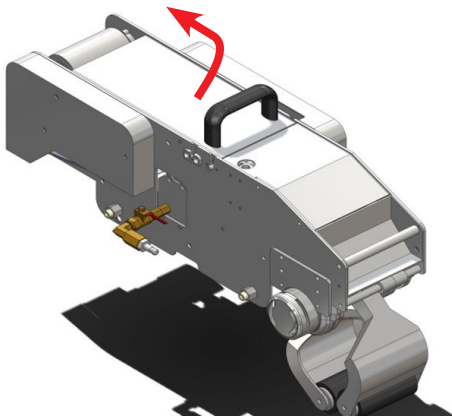

Figure 60: Remove Top Cover
1. Remove top cover from tape head, (refer to Figure 60).